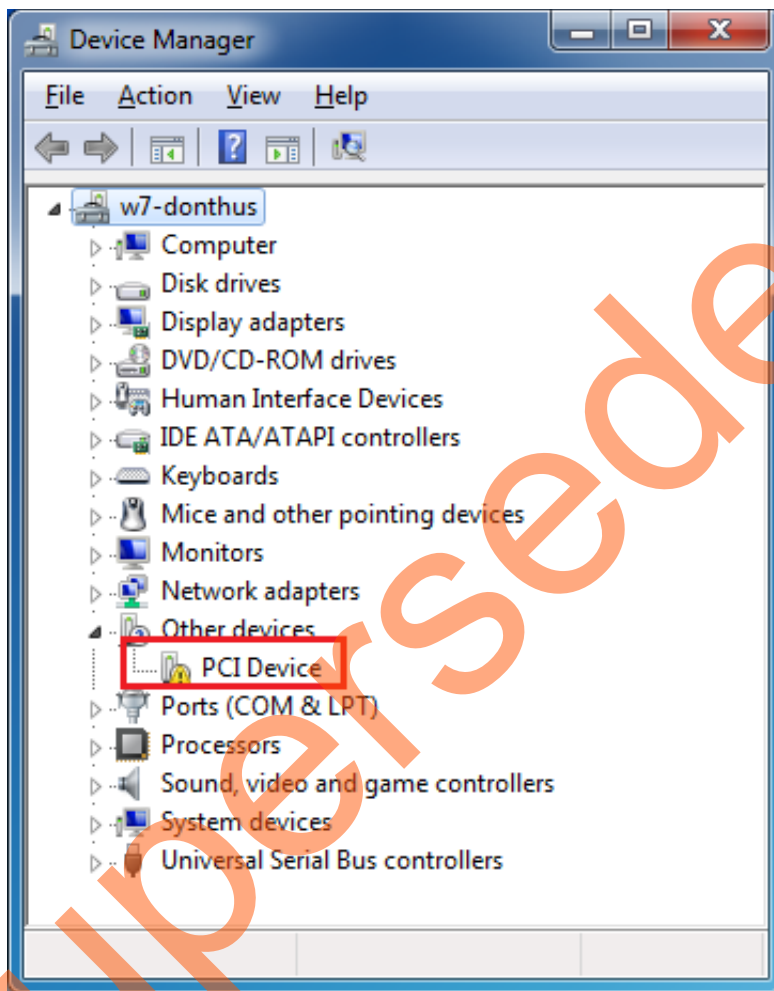

Figure 50 • Device Manager
2. Power on the host PC and check the host PC Device Manager for PCIe device. It will be similar to Figure 50. If the PCIe device is not detected, power cycle the IGLOO2 Evaluation Kit board and click “**scan for hardware changes**” in the Device Manager.
- b. Select the **Delete the driver software** check box for this device as shown in Figure 52. After uninstalling the previous Jungo drivers, make sure that the **PCI Device** is detected in the **Device Manager** window as shown in Figure 50.